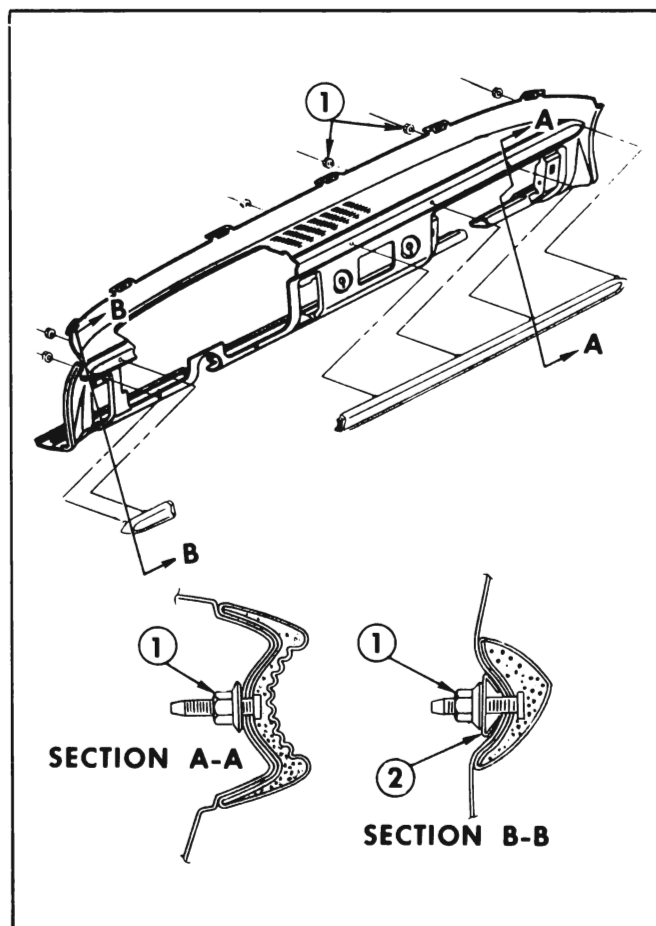

Figure 13-22—Instrument Panel Cover
The instrument panel cover assembly is a two piece soft molded "Nose" design applied to the formed surface of the instrument panel and is attached by studs and nuts as indicated by #1 in Figure 13-22. The left end is separate
1. From underside of instrument panel remove attaching nuts and spacer shims as indicated by #1 in Figure 13-22 and remove either cover.
2. To install, make certain that spacer shims on the left end are installed before the attaching nuts as indicated by #2 in Figure 13-22, Section "B-B" and reverse removal procedure.